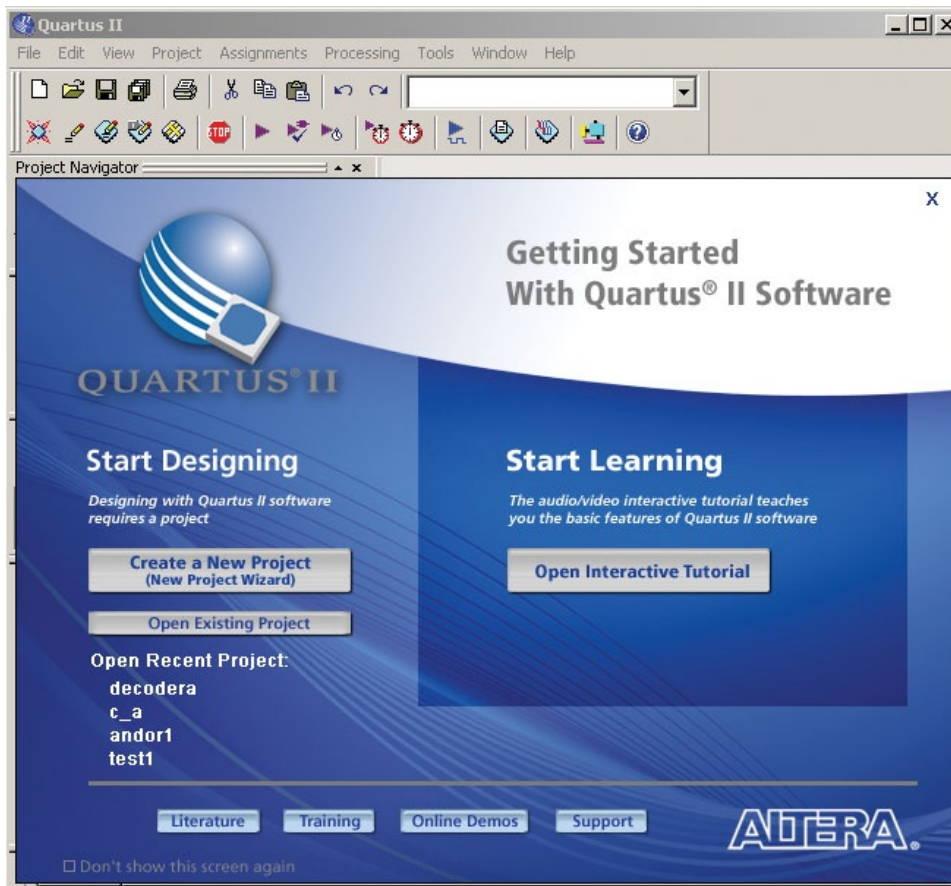

Figure 4–15 Quartus[®] II main screen. (Courtesy of Altera Corporation.)
1. Start the Altera Quartus[®] II software. The main screen is shown in Figure 4–15.